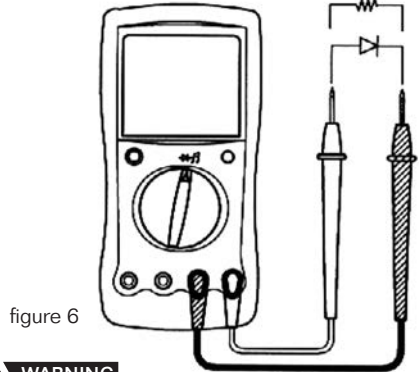

figure 6
- The test leads can add 0.1Ω to 0.2Ω of error to the resistance measurement. To obtain precision readings in low-resistance, that is the range of 200Ω, short-circuit the input terminals beforehand and record the reading obtained (called this reading as X). (X) is the additional resistance from the test lead. Then use the equation: measured resistance value (Y) - (X) = precision readings of resistance.
D. Diode Testing (see figure 6)
- The unit of diode is Volt (V), displaying the positive connection voltage-drop value.
E. Continuity Testing (see figure 6)